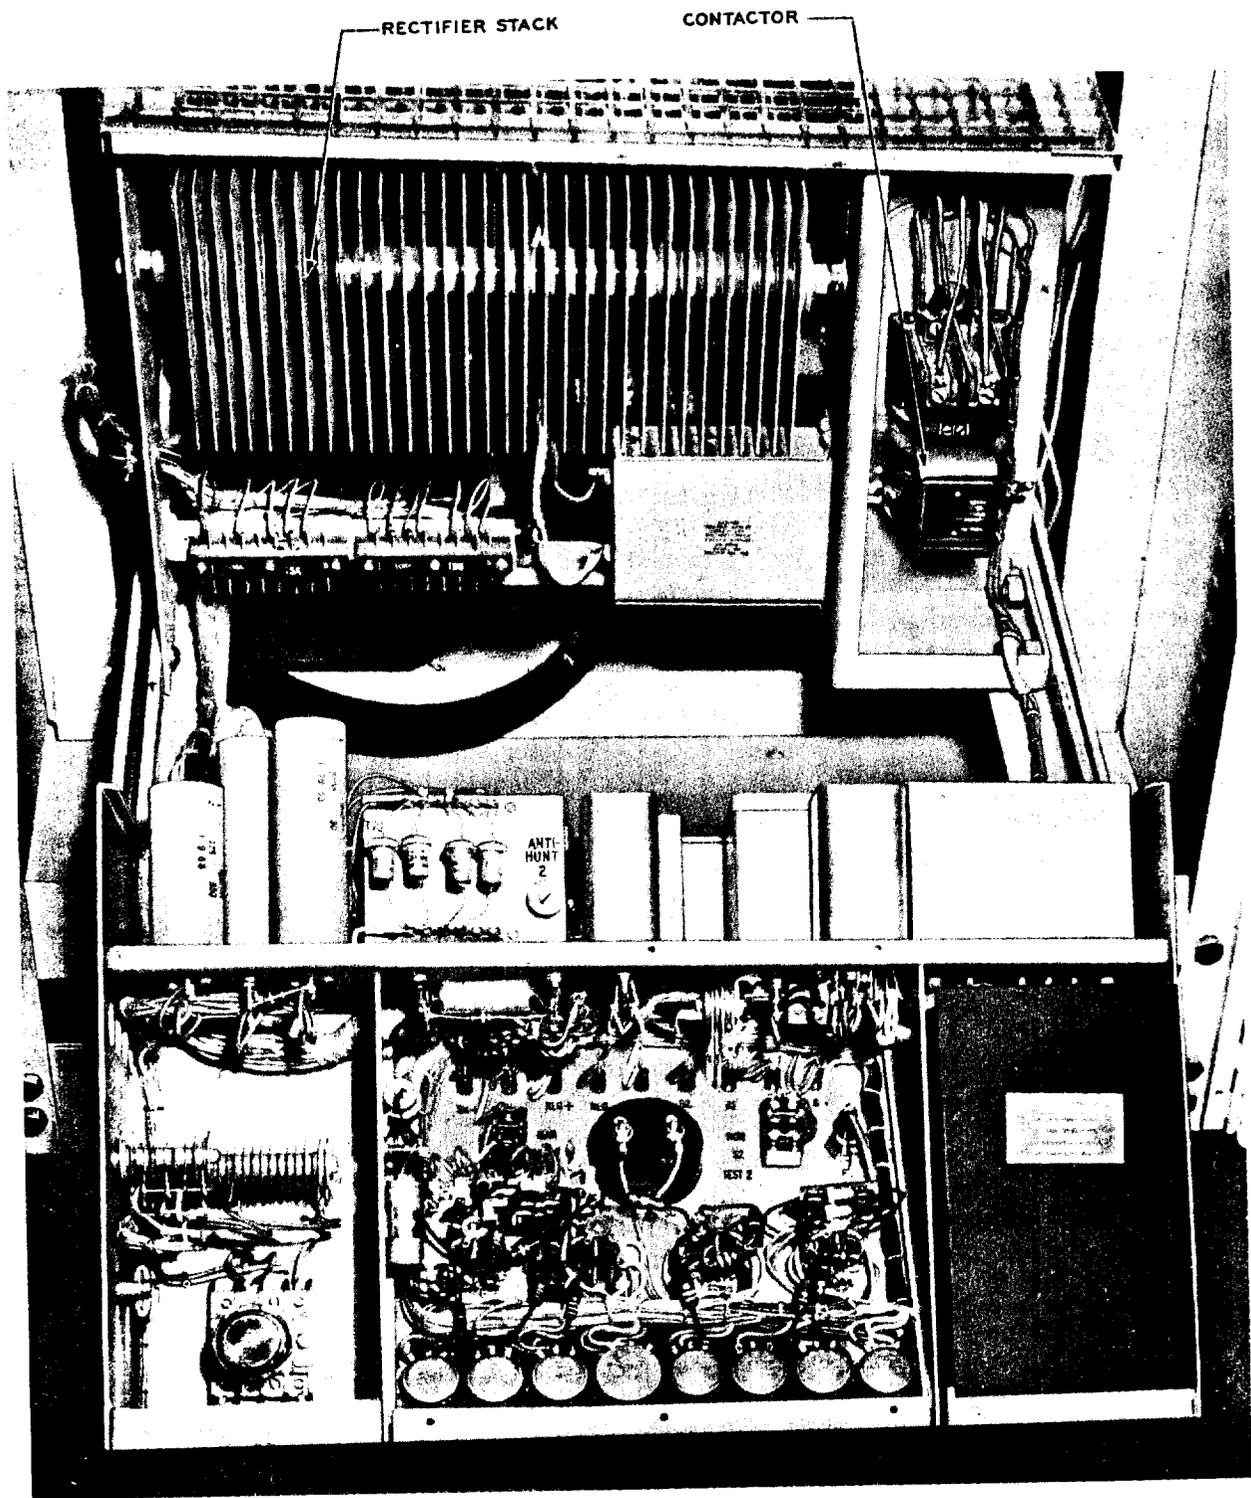

Fig. 2 — J86250A Voltage Regulator and Exciter (open)
- (f) The CON CUR H, CON CUR L, and LINE COMP potentiometers are turned fully cw. The CHG, CUR REG, MAN, ADJ VOLTS, and ANTIHUNT 1 potentiometers are turned fully ccw. ANTIHUNT 2 potentiometer, mounted on the back of the control panel (see Fig. 2), is factory-set and should not be disturbed, except as specified in 4.14.
4.14 If the machine hunts only when connected in parallel, increase the resistance of ANTIHUNT 2 potentiometer, mounted on the back of the control panel (see Fig. 2), by turning the shaft ccw until the hunting is reduced to a minimum.